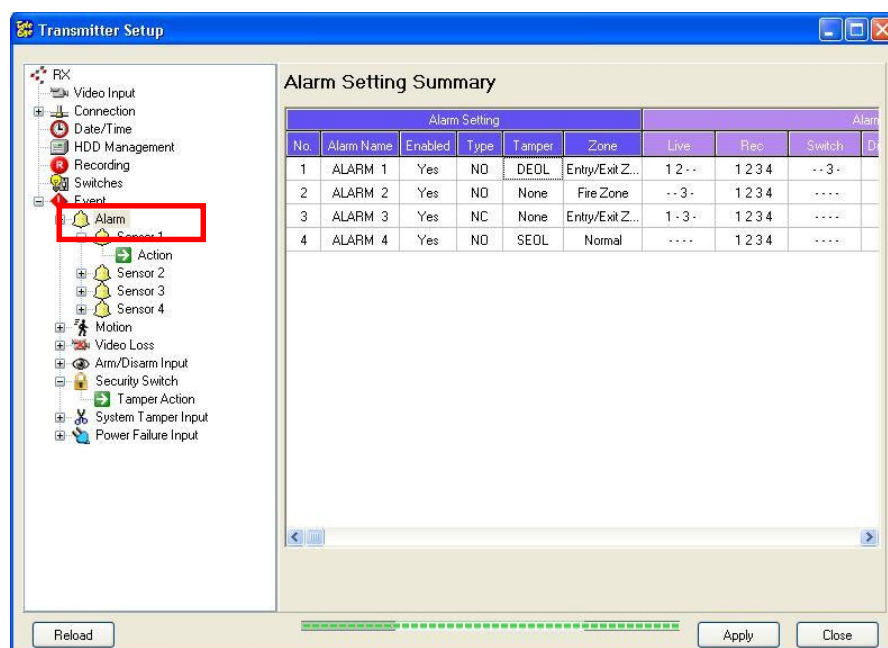

Fig 8.1.3k
Step 7 : After setting all alarms, user can view the alarm setting summary in **{Transmitter Setup}** panel by clicking **[Event] → [Alarm]** option to pop up **{Alarm Setting Summary}** panel as **Fig 8.1.3k**